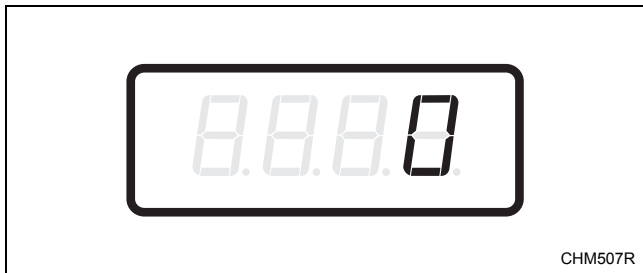

Figure 15
4. When “AtS3” appears in the display, press the START (enter) keypad. There are five digits in the Vend Price #3. The fifth digit will appear in the display and will flash one second on, one second off. Refer to *Figure 15*.